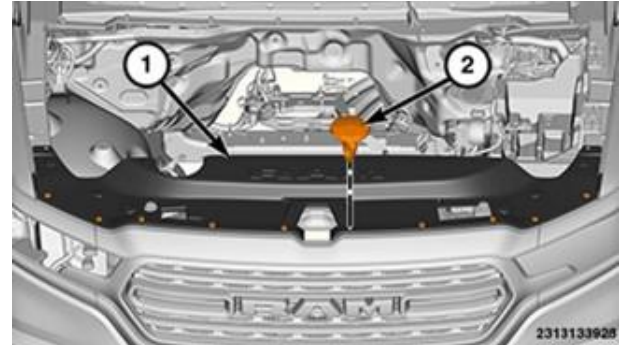

Figure A1 – Closeout Panel
3. Remove the push pin fasteners and remove the closeout panel (Figure A1).
7. If neither lamp is suspect, install the closeout panel and push pin fasteners then close the engine compartment hood (Figure A1). Inspection is complete and vehicle may be returned to customer or inventory.